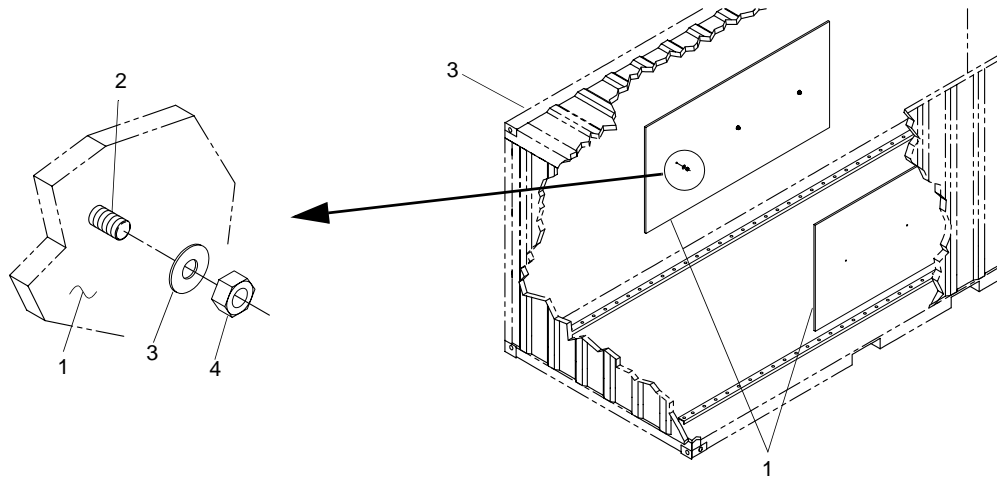

Figure 20. Plywood Stowage
19. Position plywood sheets (figure 20, item 1) on studs (figure 20, item 2) on container (figure 20, item 3) walls.
20. Install washers (figure 20, item 3) and nuts (figure 20, item 4) on studs (figure 20, item 2) to secure plywood sheets (figure 20, item 1) to container walls. Tighten nuts (figure 20, item 4).